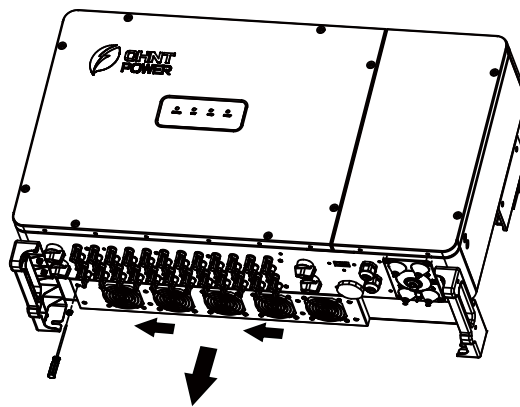

Fig. 7-1 Remove the fan tray and fan
1. Use a No.2 Phillips head screwdriver to remove the 4 screws fixing the fan tray as shown in Fig. 7-1.